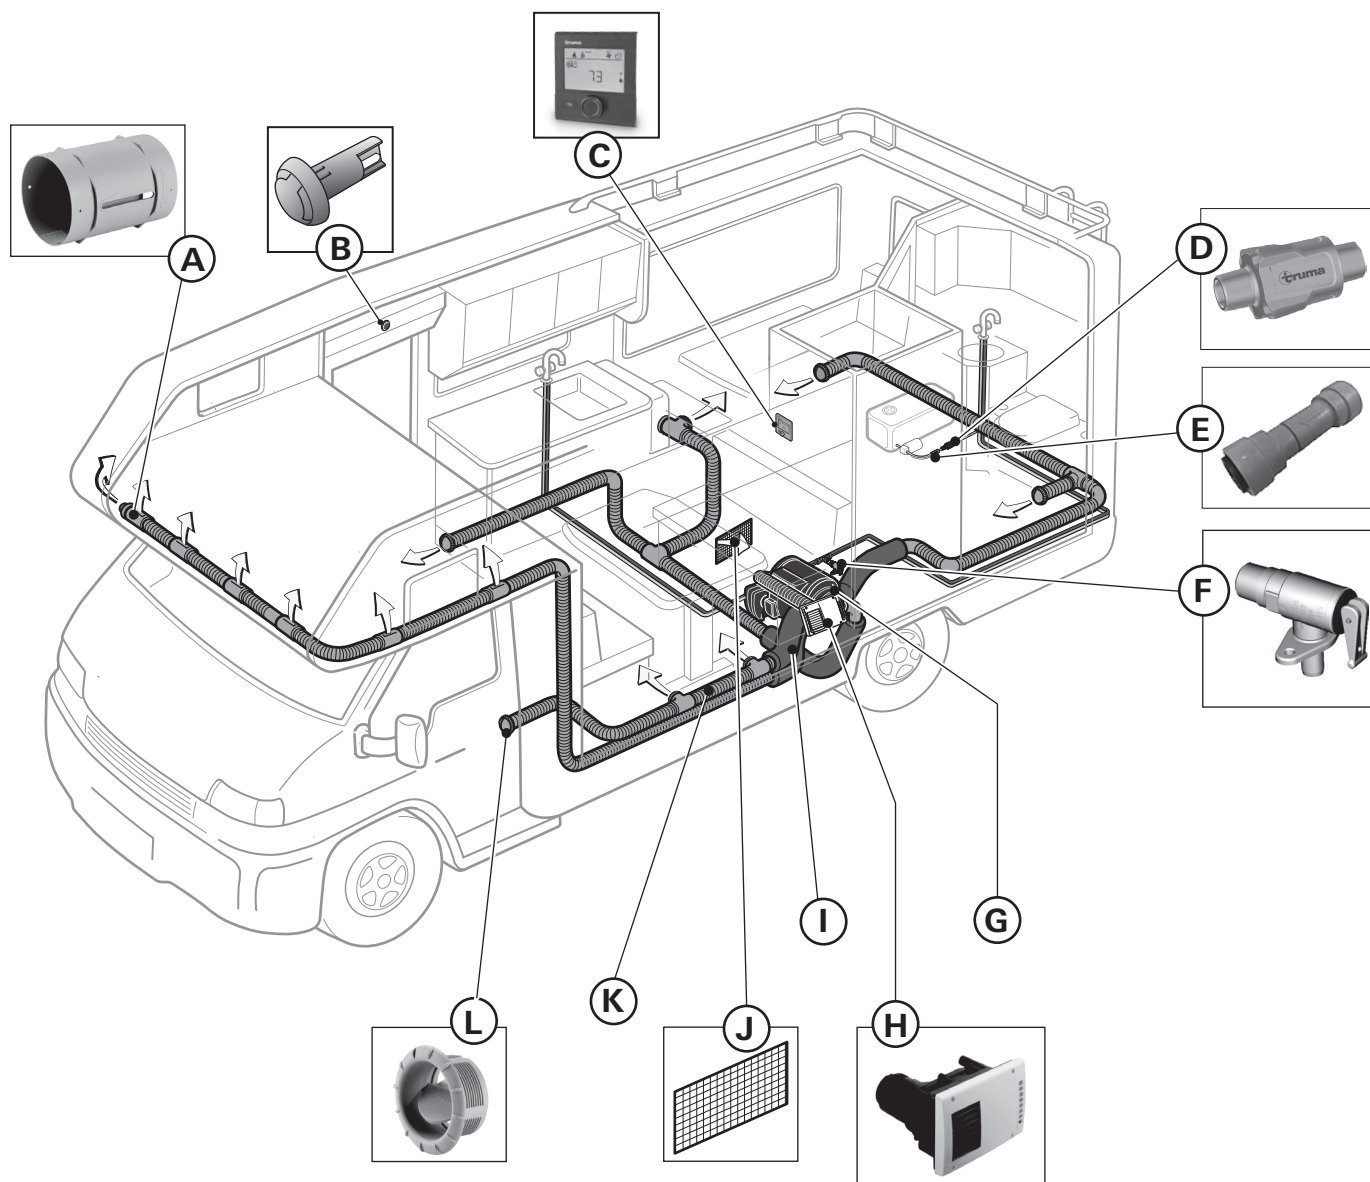
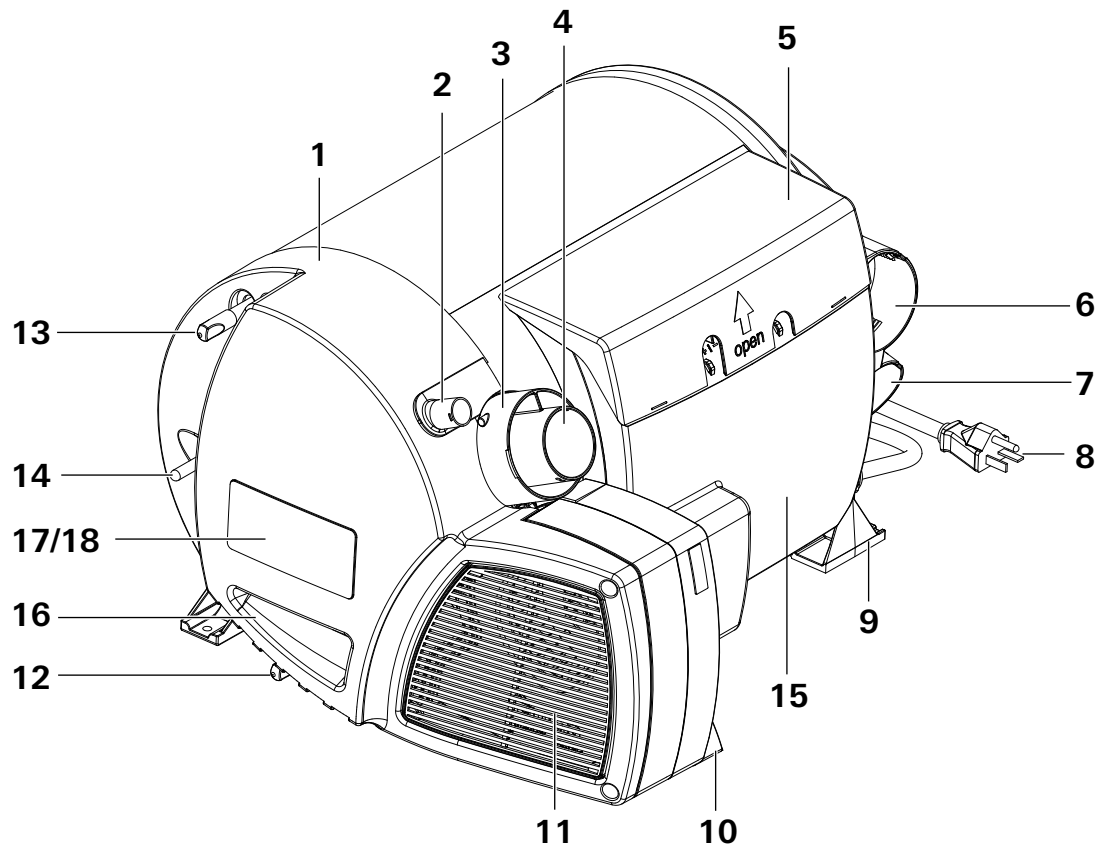

Fig. 1
Fig. 2
- Keep the area in front of the warm air outlets (Fig. 1–L) free of combustible or heat-sensitive materials. Do not put any material into the warm air outlets.
- In order to avoid overheating of the Combi D furnace, keep the air inlets of the Combi D furnace (Fig. 2–11), the air openings to the area in which the Combi D furnace is installed (Fig. 1–J) and the spacing around the Combi D furnace free of obstruction.
- To ensure clean combustion, keep the wall cowl free of obstruction. Do not lean any objects against the wall cowl (Fig. 1–H).
- Always check the air temperature before varying the air throttle position (Fig. 1-L).
- Never actuate the pressure relief/drain valve (Fig. 1-F) as long as the Combi D furnace is under water pressure and/or still hot.